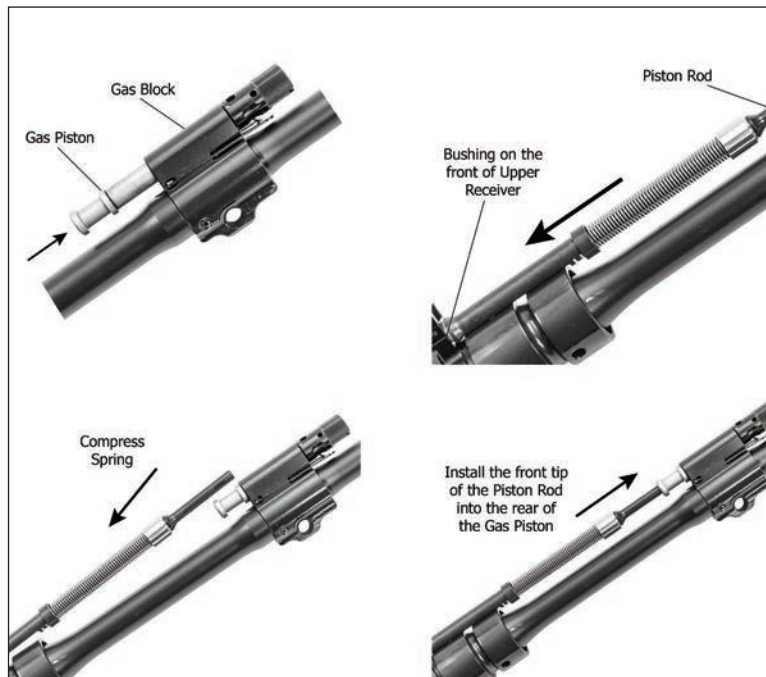

Fig. 31 – Reinstalling the Gas Piston and the Piston Rod
- a. Install the gas piston into the back of the gas block (Fig. 31).